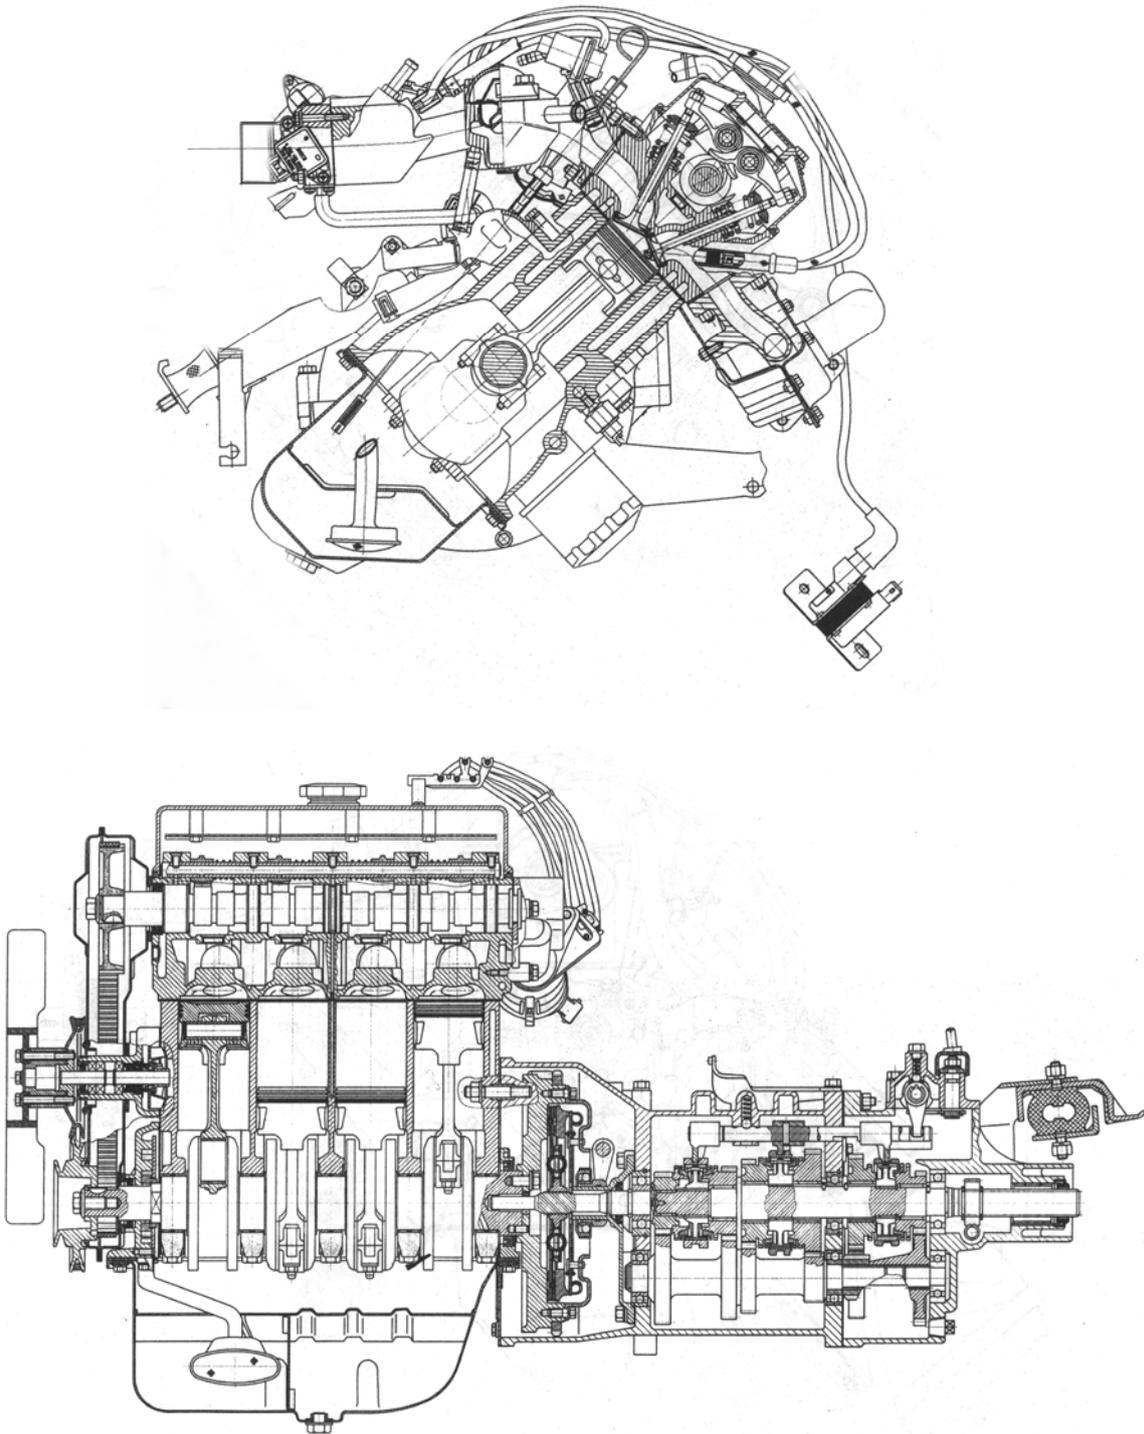

Fig.4-1
**The engine is** in-line 4-cylinders, water-cooled, 4-stroke cycle MPI gasoline unit with valve mechanism arranged for “V”-type valve configuration and overhead camshaft, which is installed in cylinder head and driven by crankshaft with timing chain. With compare to general model, no valve lifter is available in the model, so that valves is driven in more directive method and open or close more promptly (See Fig.4-1).